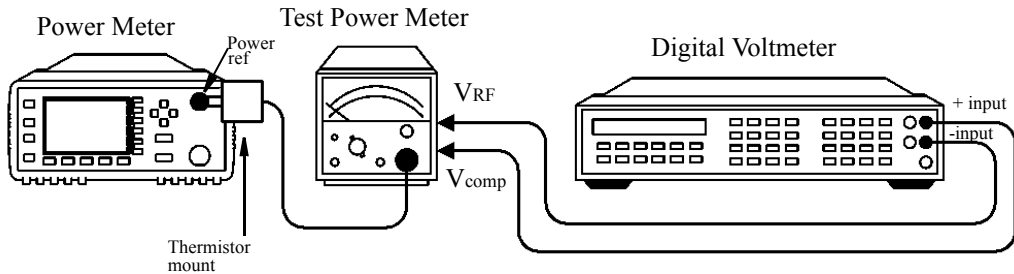

Figure 2-4: Power Reference Level Test Setup
1. Set the DVM to measure resistance: Connect the DVM between the V_{RF} connector on the rear panel of the Agilent 432A and pin 1 on the thermistor mount end of the sensor cable. Verify that no power is applied to the Agilent 432A. 2. Round off the DVM reading to two decimal places and note this value as the internal bridge resistance (R) of the Agilent 432A (approximately 200 Ω). • R _____ Ω 3. Connect the equipment as shown in Figure 2-4, ensuring that the DVM input leads are isolated from chassis ground.